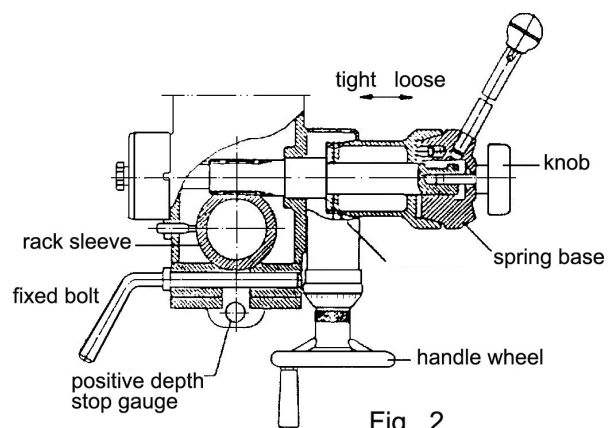

Fig. 2
(1) Preparing for Drilling (see fig.2) (Except addition power feed system).
(2) Preparing for Milling (see fig.2) (Except addition power feed system).